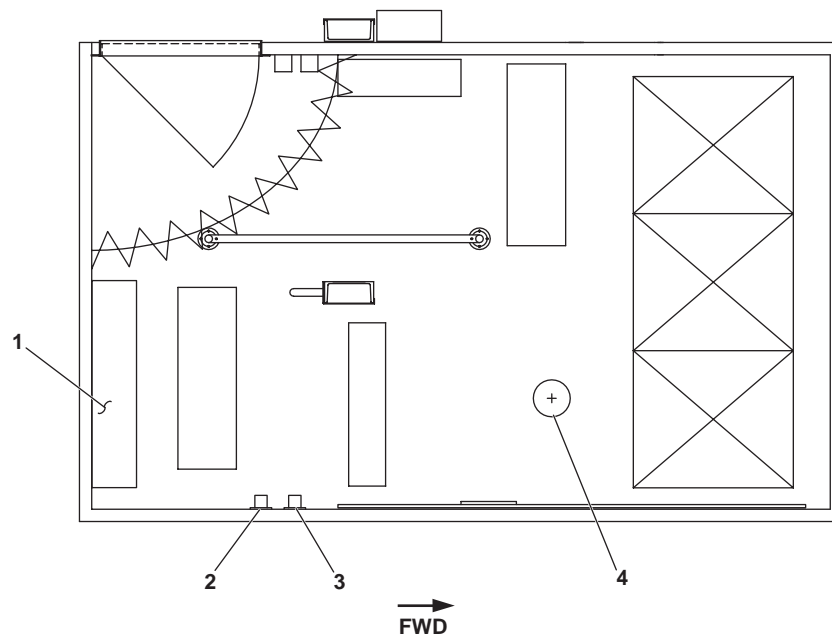

Figure 10. Radio Room Plan View
1. Air conditioning fan unit (figure 10, item 1). The air conditioning fan unit provides air conditioning for the radio room.
2. Fire alarm strobe light (figure 10, item 2). The fire alarm strobe light flashes red when the fire and smoke alarm is activated.
3. General alarm strobe light (figure 10, item 3). The general alarm strobe light flashes amber when the general alarm is activated.
4. Ionization smoke detector (figure 10, item 4). The ionization smoke detector activates the fire alarm system when smoke is detected.